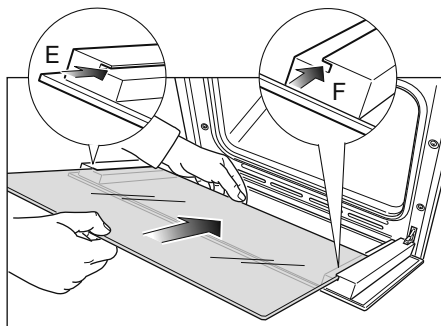
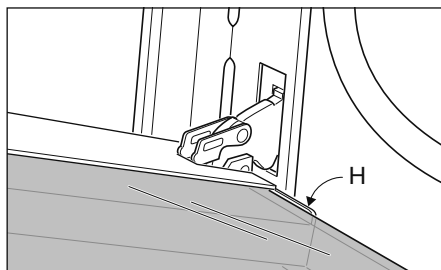

Fig.38b
Fig.38c
- Insert the pane in the left "E" and right "F" slide guides (Fig. 38b), and gently slide it to the retainers "H" (Fig. 38c).